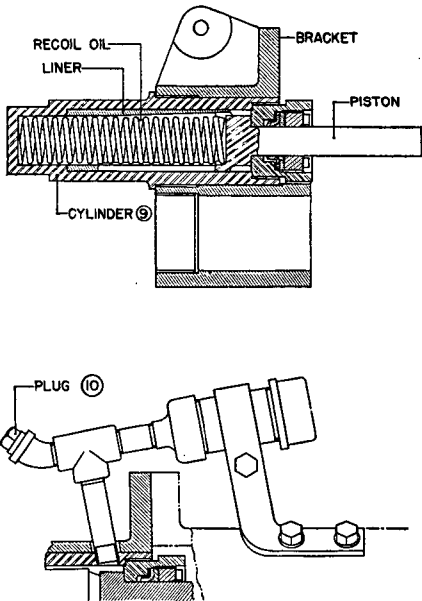

FIGURE 9.—Rear buffer (sectioned views).
■ 46. FILLING REAR BUFFER CYLINDER (fig. 9).—Set gun at 0° elevation, remove pipe plug (10), and fill with heavy recoil oil, low pour point (U. S. A. Spec. 2-96) until oil is level with filling plug hole. Replace pipe plug.